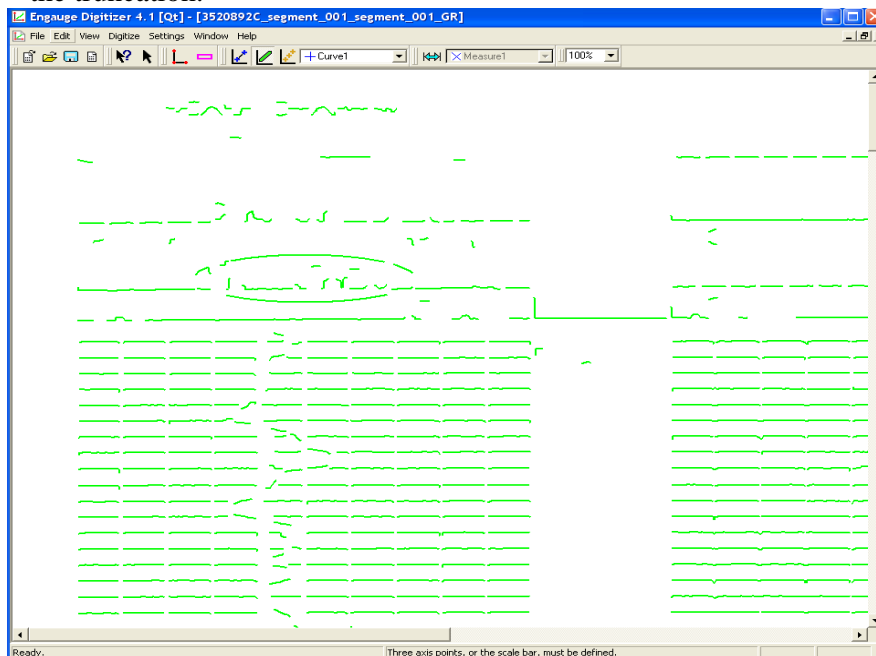
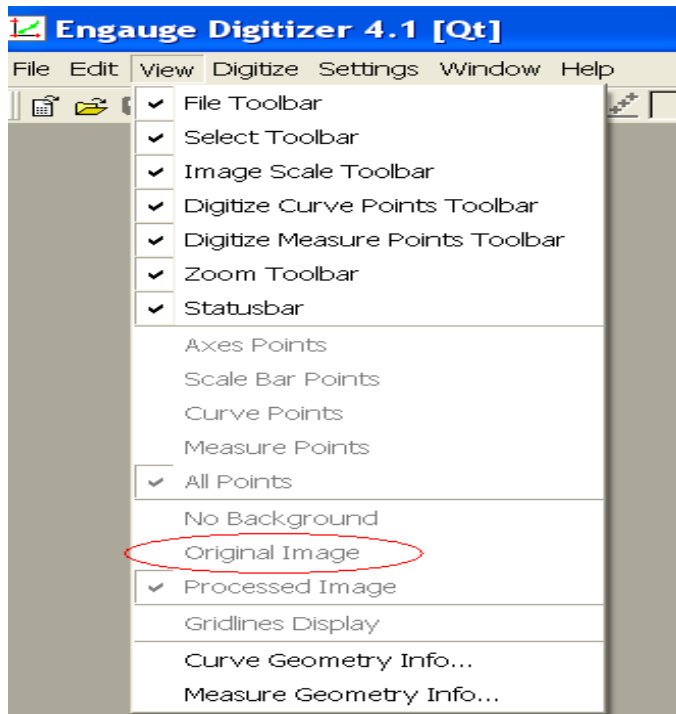

Figure 4a, A file is imported
Figure 4b, The Original Image Option
- d. After importing the file, It looks like the one shown below (Figure 4a). Click on View/Original Image option(Figure 4b). Note: If the size of the imported file is too big, you can see nothing. In this case the file needed to be truncated multiple files with smaller sizes and be handled one by one. Because the size of the file that the Engauge Digitizer can handle depends on your computer memory. Please contact Dr. Li in GE315 if this happens and he can show you how to do the truncation.